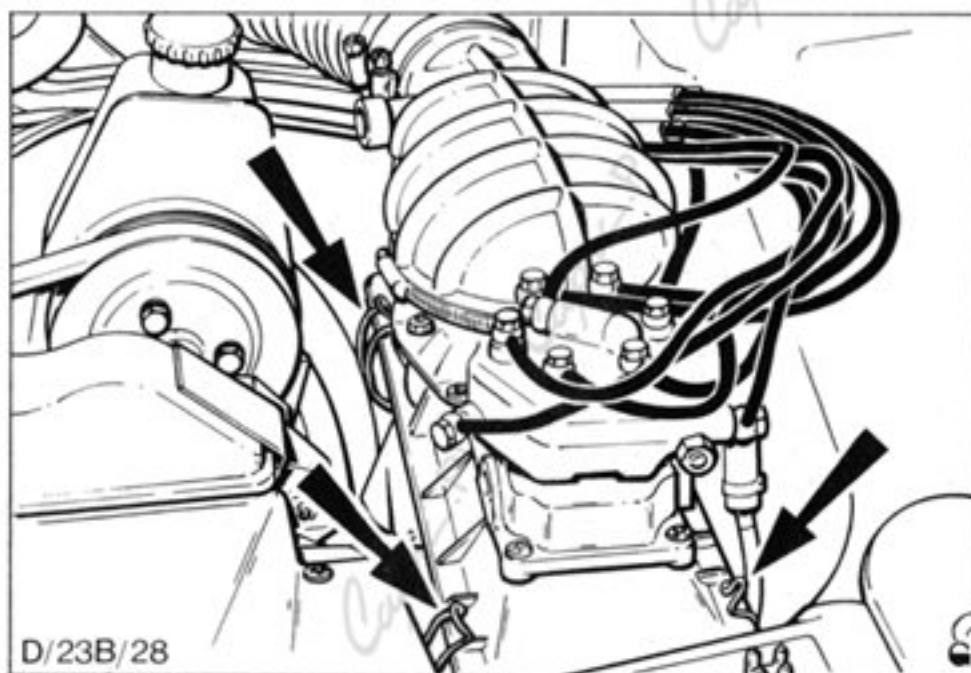

Fig.68. Air cleaner securing clips.
3. Detach four cleaner retaining clips. Three shown in Fig.68.